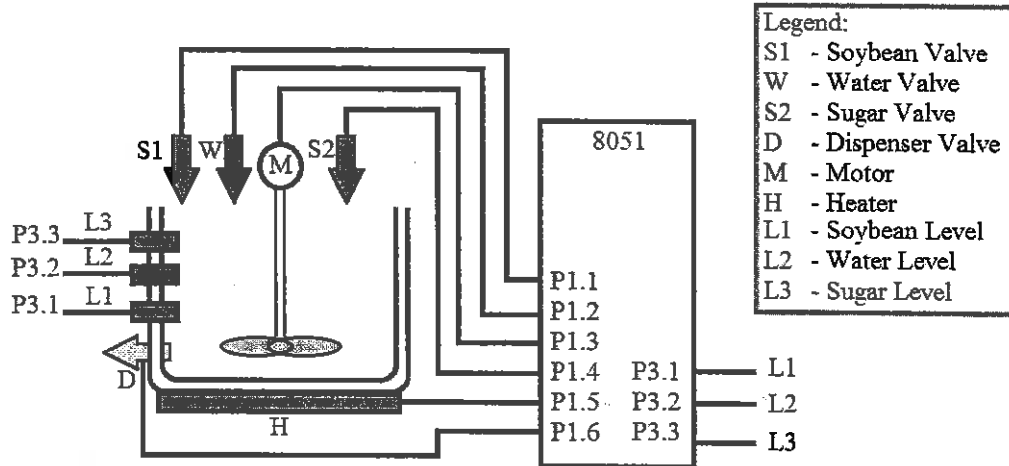

Figure 5(b)
- (b) Automatic soymilk maker commonly use blending machine to blend soybean and heater to cook soymilk. An 8051 microcontroller based automatic soymilk maker is shown in Figure 5(b) which performs the following process: